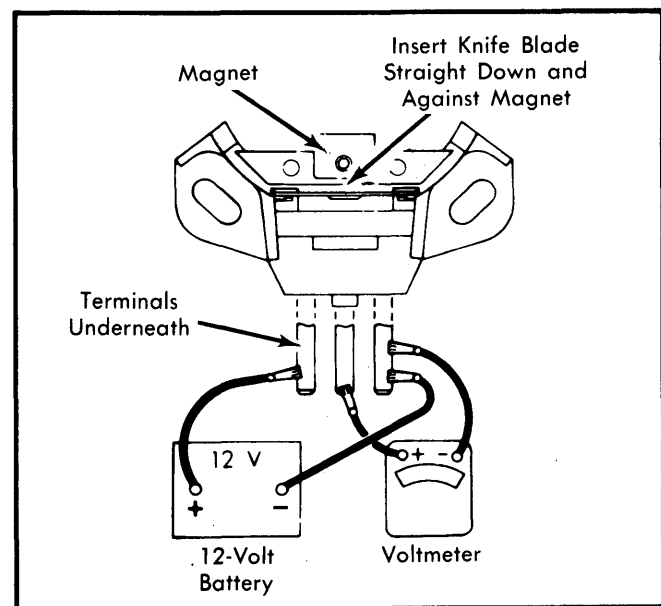

Fig. 10 Testing Hall Effect Switch
- 1) Disconnect 3-wire connector at Hall Effect switch. Connect a 12 volt battery and voltmeter to switch terminals. See Fig. 10. Carefully note polarity markings.
- 2) Insert knife blade straight down between magnet and Hall Effect switch. See Fig. 10. Voltmeter should read within 0.5 volts of battery voltage. With knife blade removed, voltmeter should read between 0 and 0.5 volts.